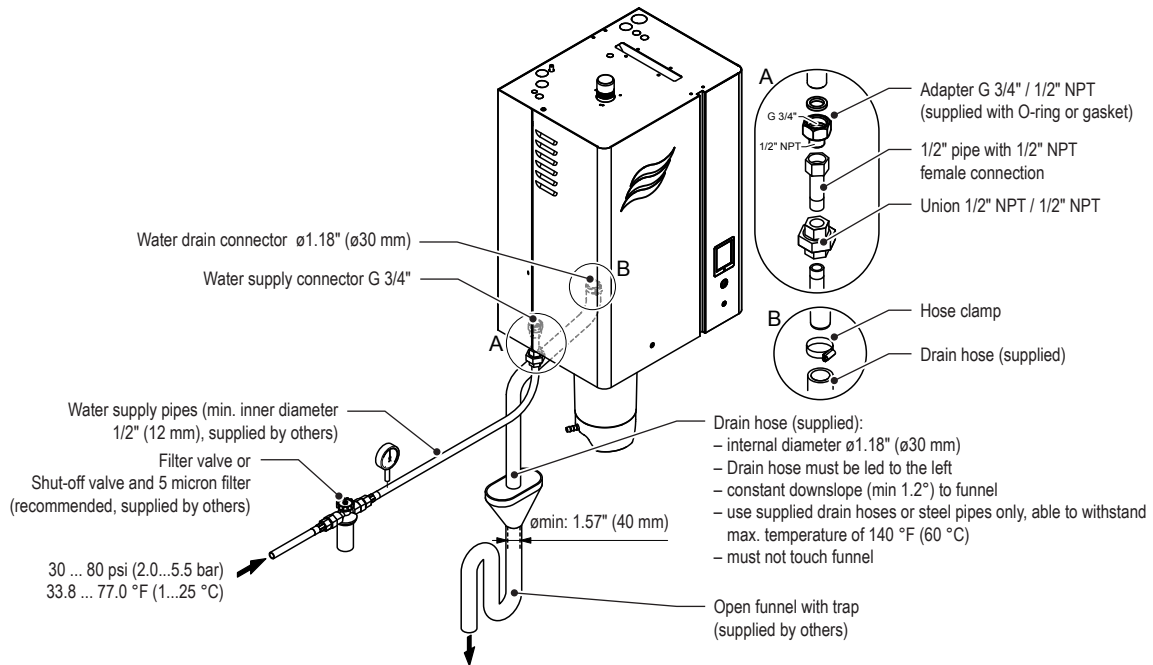
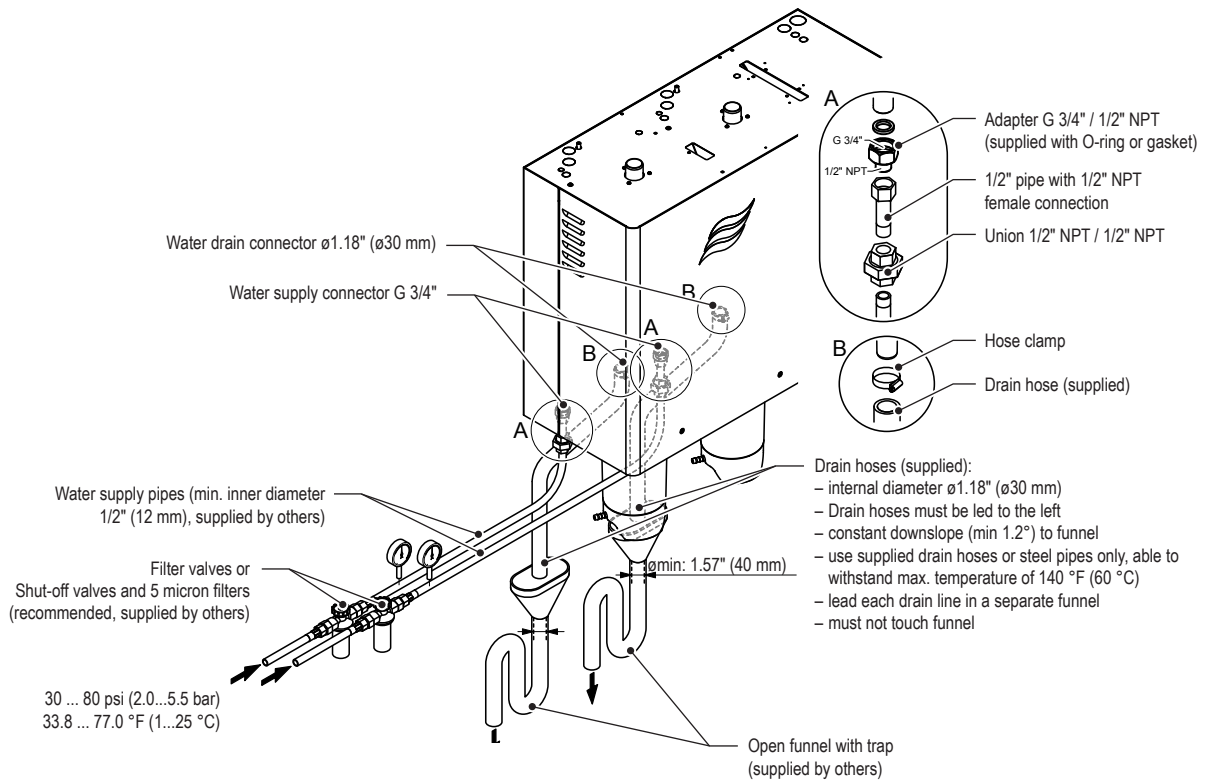
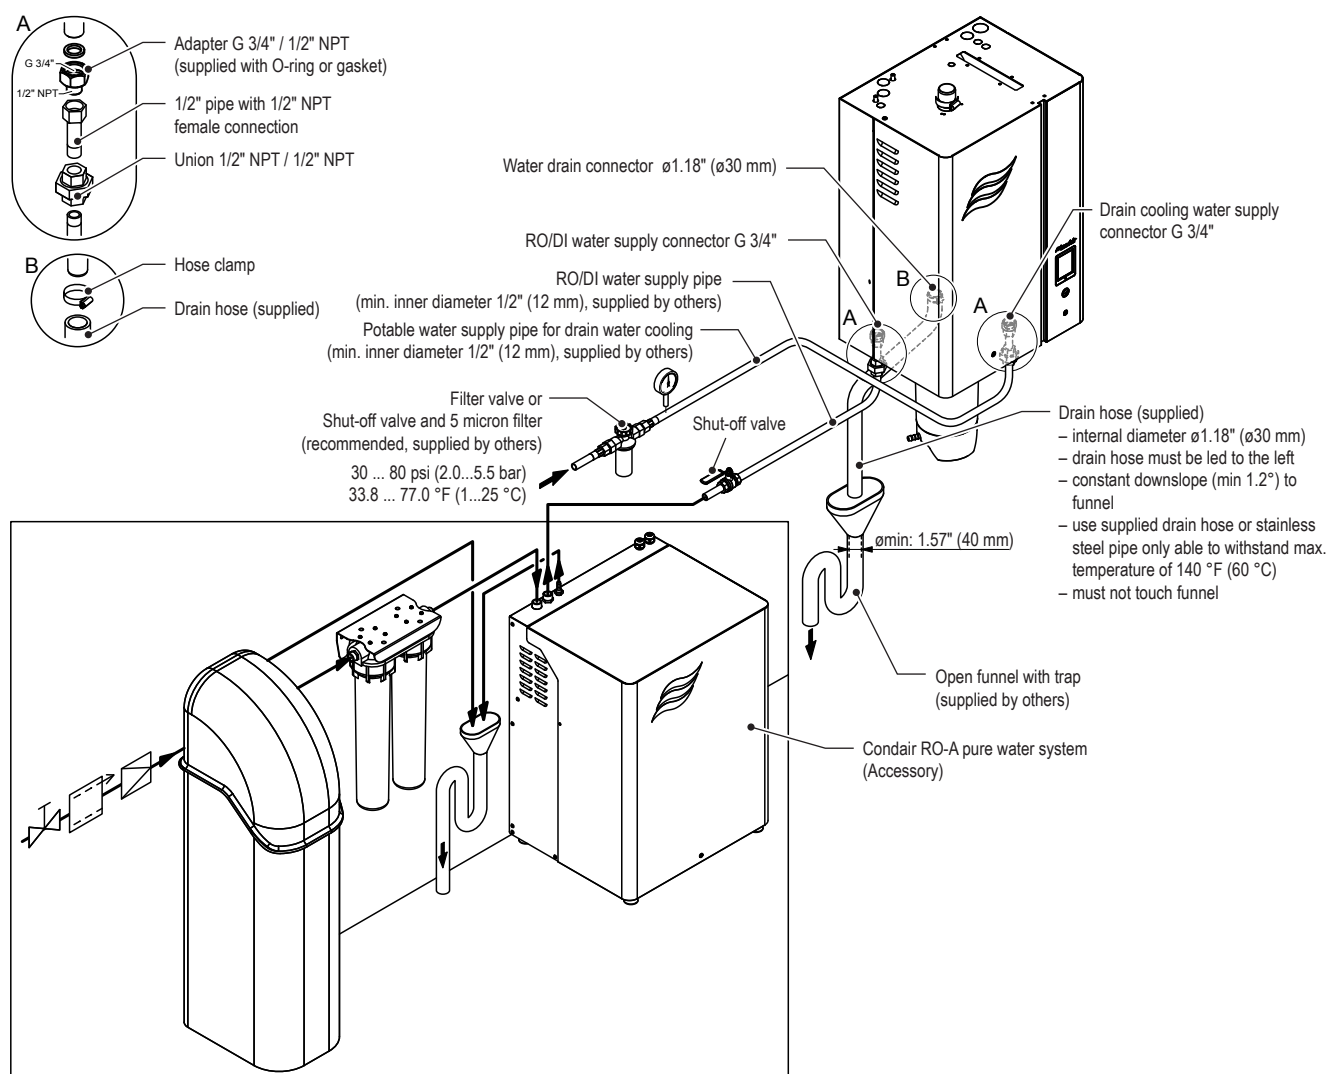
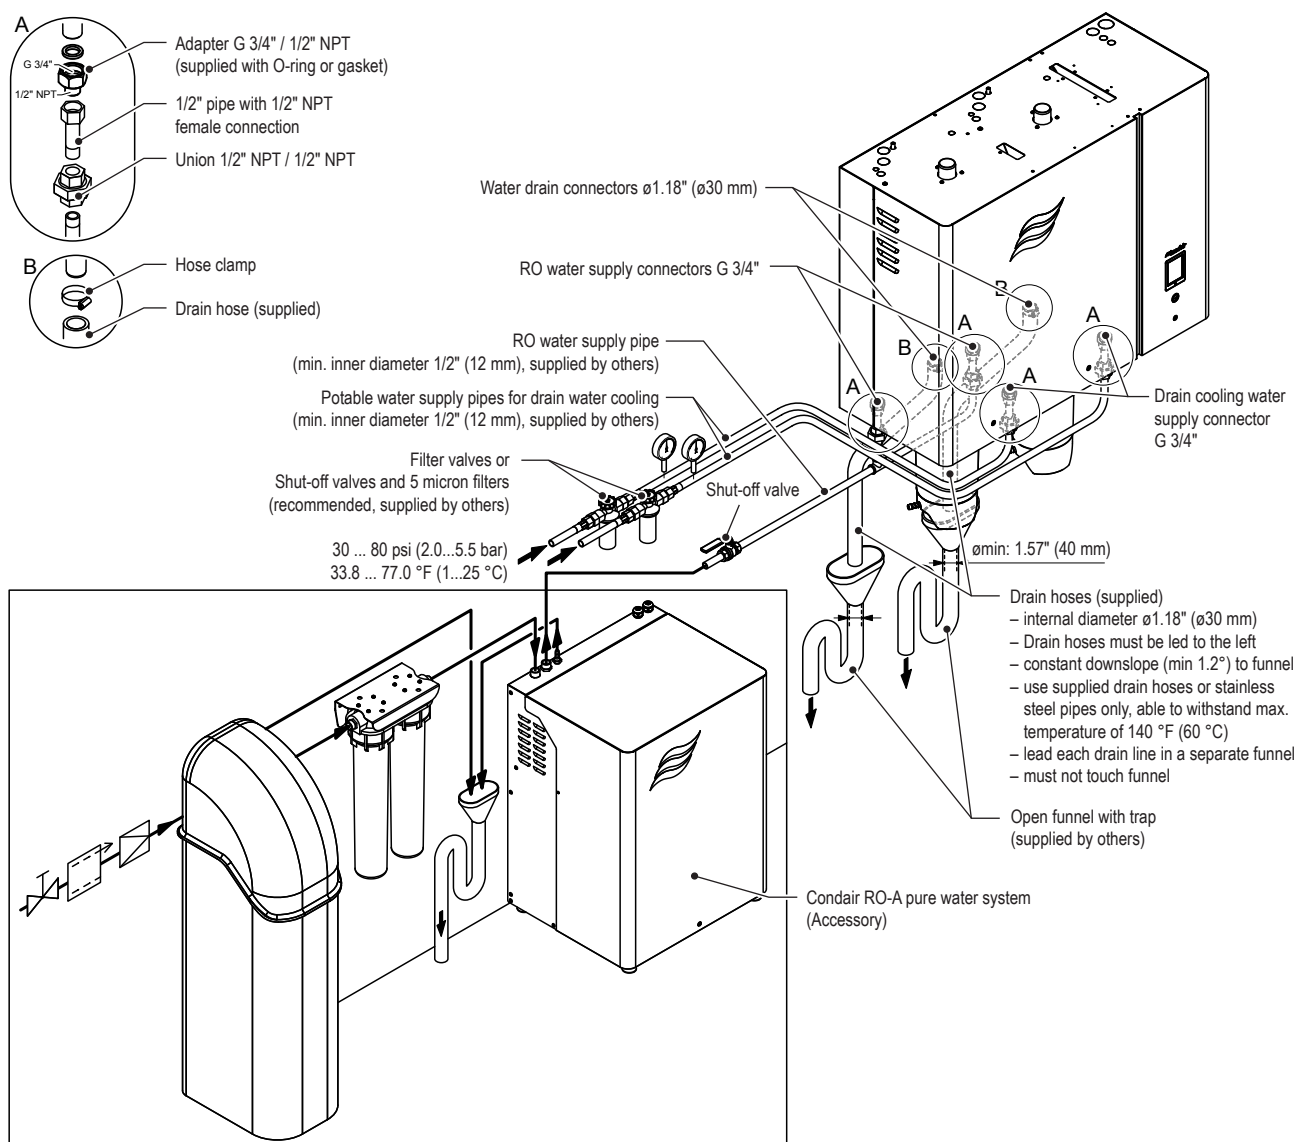

Fig. 18: Overview water installation for single units Small and Medium
Fig. 19: Overview water installation for single units Large
Fig. 20: Overview water installation for single units Small and Medium (with RS-RO option installed)
Fig. 21: Overview water installation for single units Large (with RS-RO option installed)
The water supply is to be carried out according to Fig. 18 and Fig. 19 or Fig. 20 and Fig. 21 and the applicable local regulations for water installations. The indicated connection specifications must be observed.
With the RS-RO option installed the water supply and the drain cooling water supply are to be carried out according to Fig. 20 and Fig. 21 and the applicable local regulations for water installations. The indicated connection specifications must be observed.
- The RO water supply must be connected to the inlet connector(s) according to Fig. 20 and Fig. 21. Use only installation material that is approved for RO or DI water to connect the RO-A pure water system to the Nortec RS. All water supply requirements outlined in Section 5.6.3.1 must also be adhered to with the RO or DI water supply.
The separate drain cooling water supply must be connected to the optional drain water cooling inlet valve(s) provided with the RS-RO option according to Fig. 20 and Fig. 21. Please observe the following notes regarding the drain cooling water supply installation.
- Always lead the supplied drain hose from the connector to the left down to the funnel (see Fig. 18).
On large units with two steam cylinders each drain line must be led into a separate funnel with trap (see Fig. 19).
- ☐ Has RO water supply been connected to the water inlet connector according to Fig. 20 and Fig. 21 and has installation material been used approved for use with RO water?